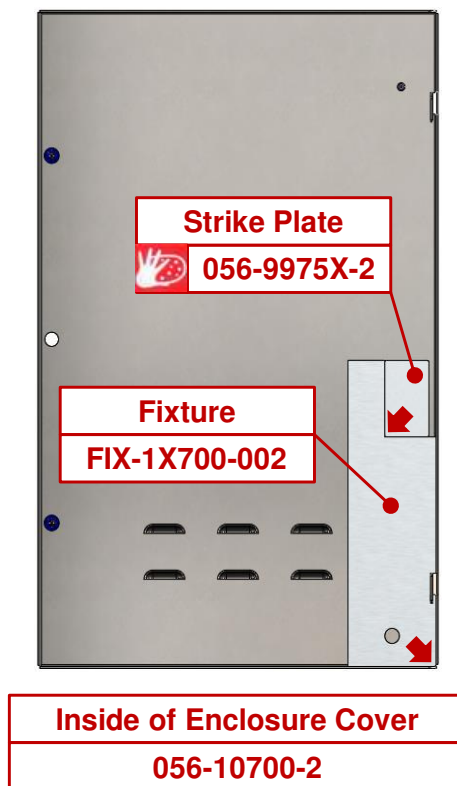

Figure 3: Install Strike Plate
4.2 Assemble and install the DCU cover.**4.2.1** Install the strike plate (056-9975X-2) as shown in **Figure 3**.